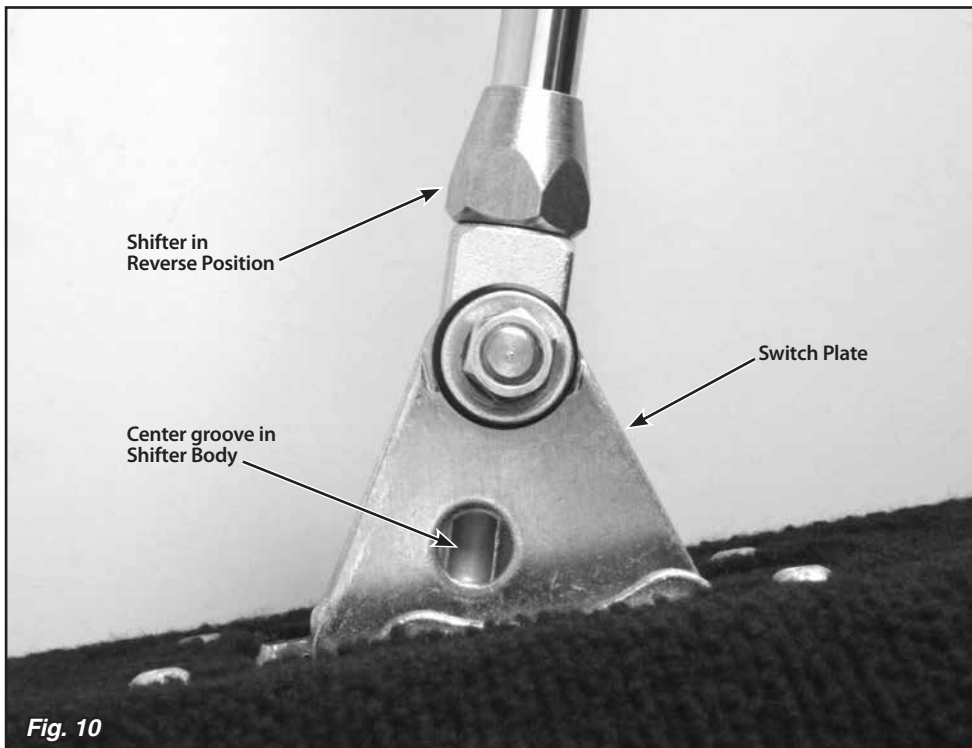
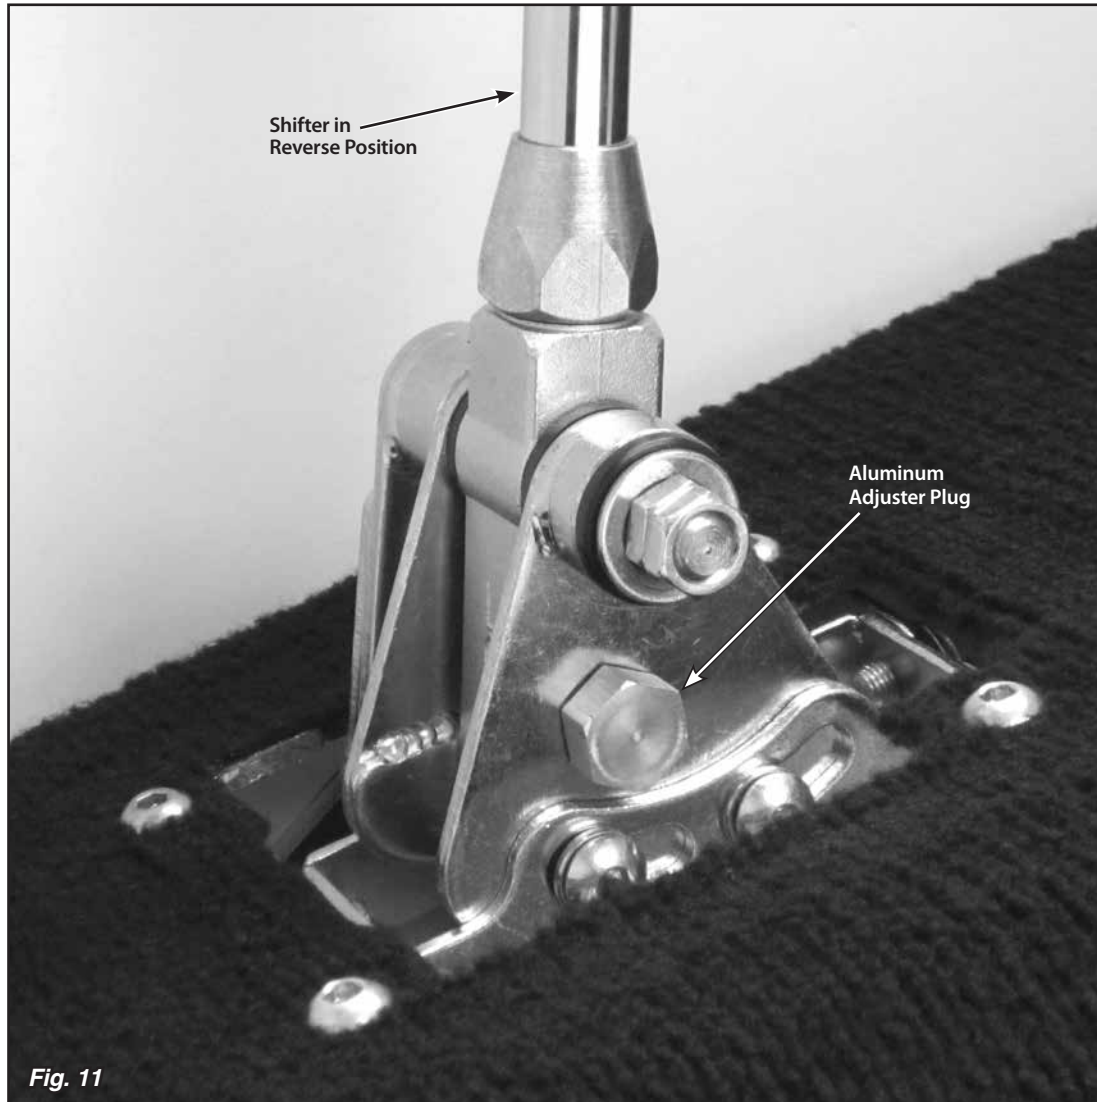

Fig. 10
Fig. 11
**Step 16:** Put the shifter into the Reverse position. Reposition the switch plate so that the hole in the switch plate lines up with the center groove in the shifter body. **Fig. 10** Screw the provided aluminum adjuster plug into the neutral safety switch opening. Wiggling the switch plate slightly forward and back while you are screwing the aluminum adjuster plug in will help get the shifter body centered on the adjuster plug. **Fig. 11**
- **If there are (2) connections for a neutral safety switch**, run a #12 (or heavier) stranded wire from these terminals in your fuse panel to the (2) terminals on the neutral safety switch. That completes the Neutral Safety Switch wiring.